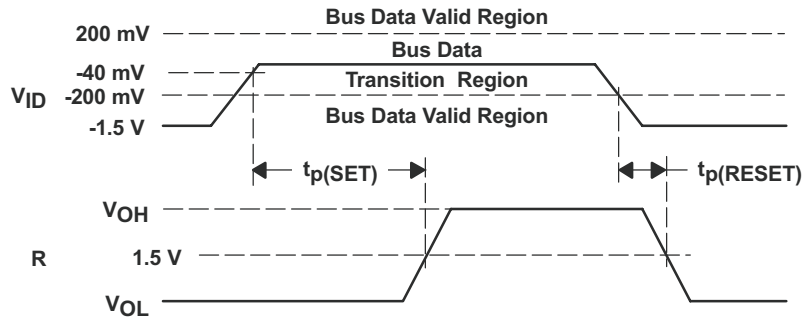

Figure 23. Receiver Active Failsafe Definitions and Waveforms
(1) H = high level, L = low level, Z = high impedance (off)
(2) If the differential input V_{ID} remains within the transition range for more than 250 μs , the integrated failsafe circuitry detects a bus fault, and set the receiver output to a high state. See Figure 23.